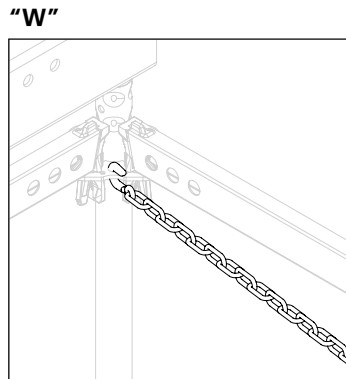

Fig. A10.02c
3. Attach the anchor chain (37) to the leg. (Fig. A10.02c)